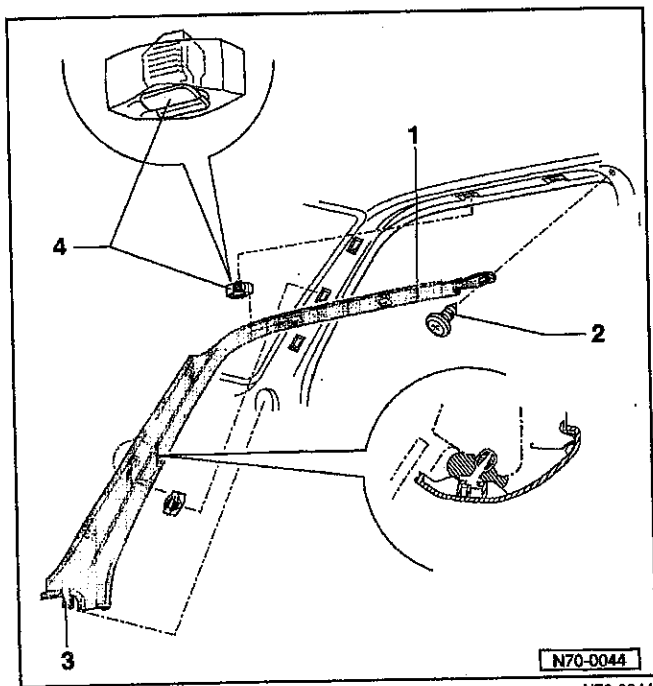

Fig. 16. A-pillar trim (1), trim screw (2), retaining lugs (3), and clips (4). Upper inset shows detail of mounting clip with foam padding.
2. Remove trim retaining screw. Pull trim from clips and then unhook from lower retaining lugs. See Fig. 16.